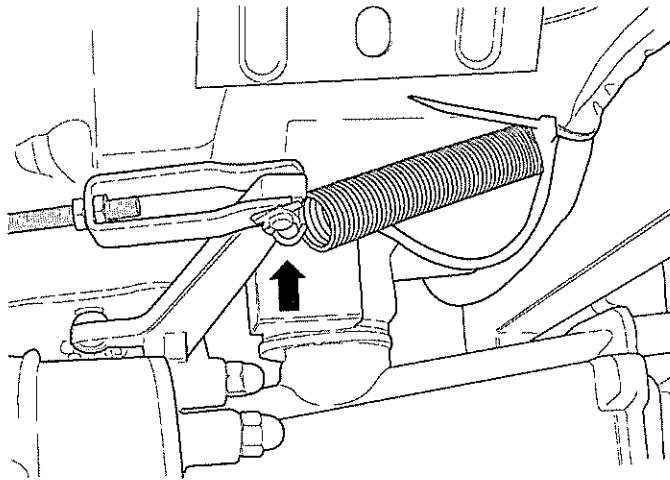

Fig 1 Handbrake linkage
- 4.2 Remove safety lock at hand brake linkage and pull out bolt (see Fig 1).